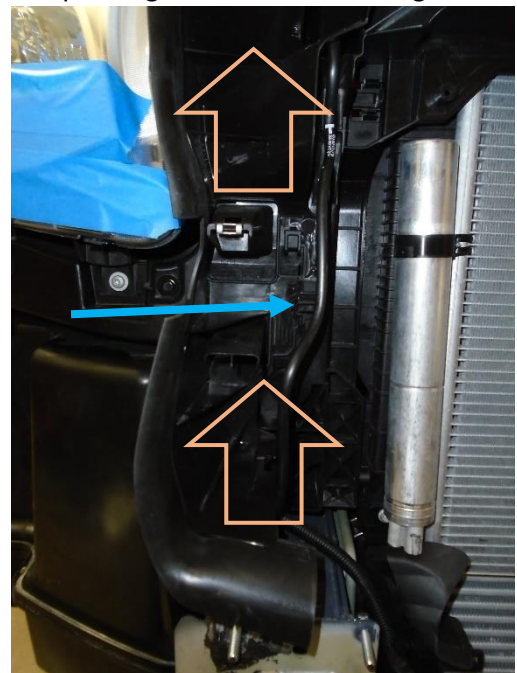

Figure 11: Plastic Shroud Removal
11. Remove the plastic shrouds on either side of the radiator by depressing the indicated tab and sliding each shroud up. Repeat for both driver and passenger sides. Reference Figure 11.